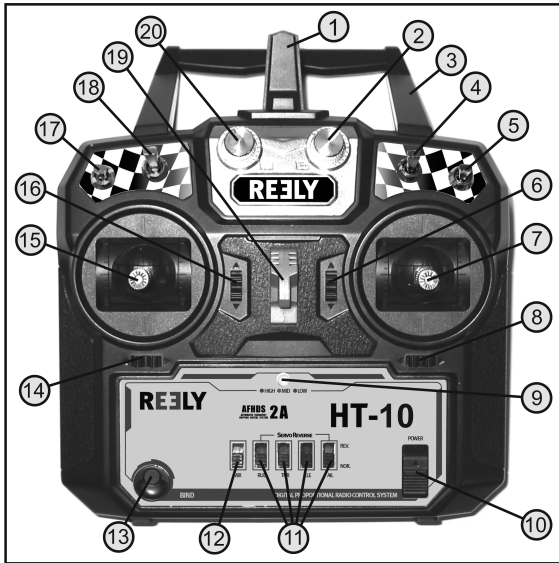

Figure 1
When new batteries are inserted, switch on the transmitter with the function switch (see figure 1, item 10) for test purposes. For this, slide the operating switch from the bottom (off) to the top (on).
The transmitter emits a short signal sound and the LED display (also see figure 1, item 9) lights up green permanently.
* The three letters in brackets correspond to the English abbreviations for the function designations. The reverse switches for channels 1 - 4 (see figure 1, item 11) are also labelled with these abbreviations.
First, switch on the transmitter and then the receiver. If the binding function is working correctly, the red LED indicator in the receiver (see figure 5, item 4) lights up and the ten servos react to the movements of the control levers, switches and dial switches. The assignment of which servo is operated with which control element at the transmitter is evident from figure 1. Verify correct receiver function and then switch the receiver off again.
The remote control "HT-10" has a finely tuned digital trimming with which each control channel can be individually set with a trimming button (also see figure 1, items 6, 8, 14 and 16).